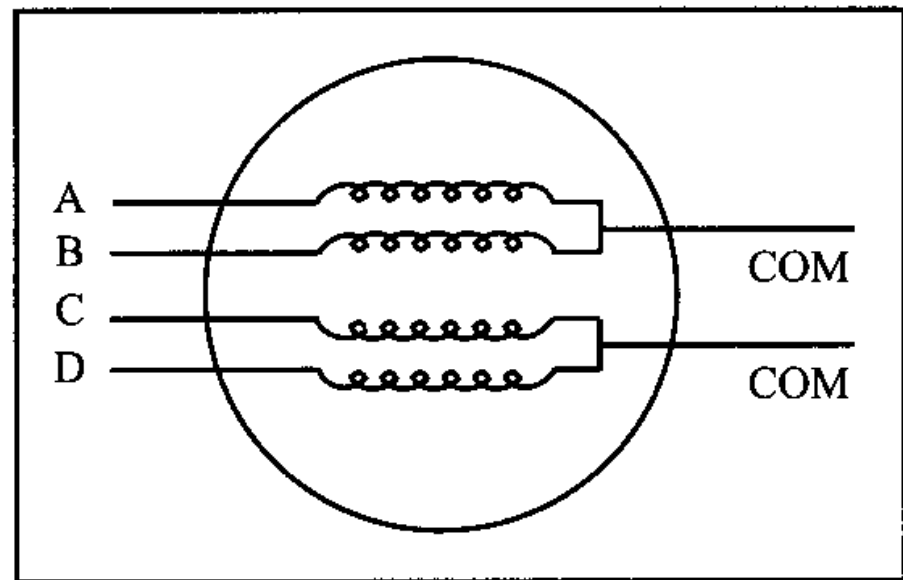

Figure 14-8. Stator Winding Configuration
*There are also steppers called variable reluctance *stepper motors* that do not have a permanent magnet rotor. The most common stepper motors have four stator windings that are paired with a center-tapped common as shown in Figure 14-8. This type of stepper motor is commonly referred to as a *fourphase* or *unipolar* stepper motor.*